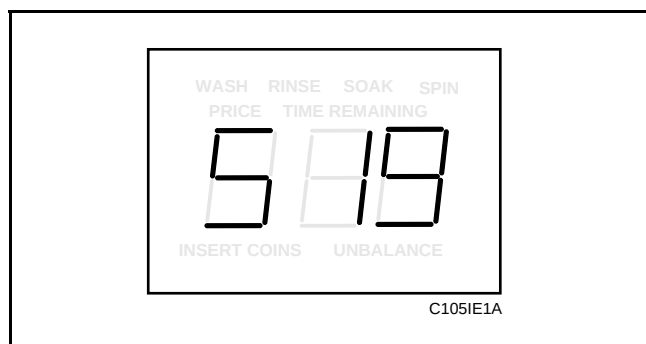

Figure 67
2. While pressing and holding the PERM PRESS keypad with one hand, press the COLD keypad with the other hand. Programmable option number one, “Slg”, will appear in the VFD. See **Figure 67**.